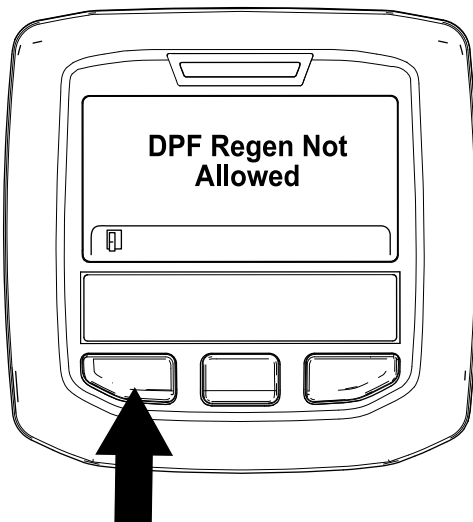

Figure 50
- If the regeneration process is not allowed by the engine computer, the "DPF Regen Not Allowed" message displays in the InfoCenter (Figure 50). Press the left button to exit to the home screen